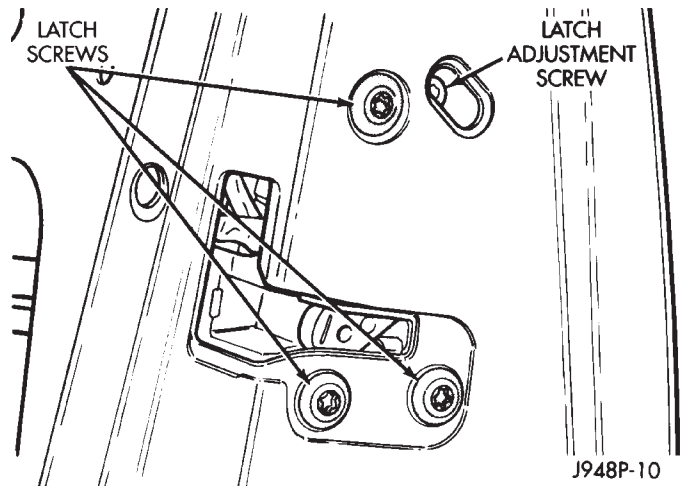

Fig. 6 Door Latch Remove/Install - Typical
(6) Unplug the wiring connector from the door power window switch.
(7) Pull back the watershield from the rear access holes of the inner door panel.
(8) Remove the door latch retaining screws (Fig. 6).
(9) Disconnect all of the actuating rods from the door latch.
(10) Unplug the power lock motor/solenoid wire connector.
(11) Remove the door latch/power lock motor from the door.
(12) Reverse the removal procedures to install. Tighten the latch mounting screws to 10 N·m (95 in. lbs.).